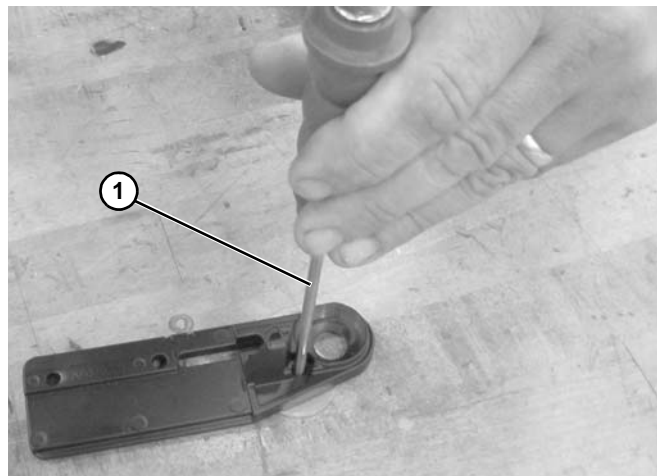
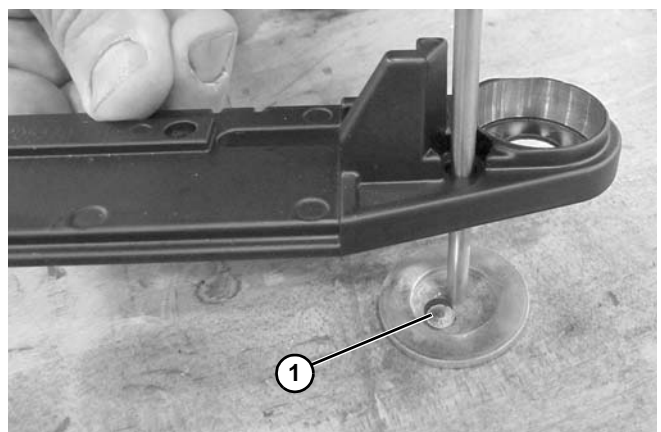

Figure 95
Figure 96
4. Repeat the same operation to knockout (**Figure 96, item 1**) for alignment screw hole using 3 mm - 5 mm punch (**Figure 95, item 1**) or M5 - M6 bolt.